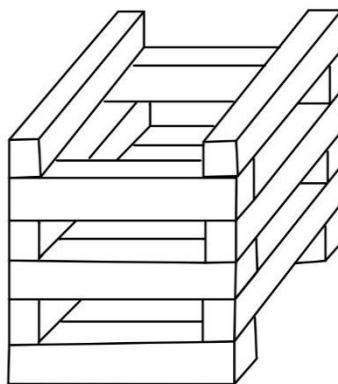

Figure 10
- 4 Typically, a 2x2 perpendicular method is used. Each layer consists of 2 pieces of hardwood layered perpendicularly to the layer above and below it. See *Figure 10*.